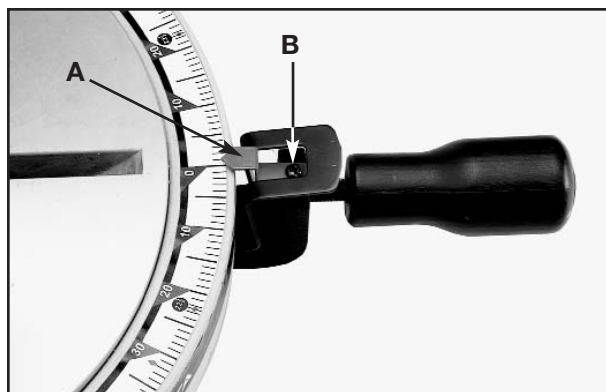

Fig. 14
If it becomes necessary to adjust the pointer (A) Fig. 14, loosen screw (B), adjust the pointer and tighten screw (B).